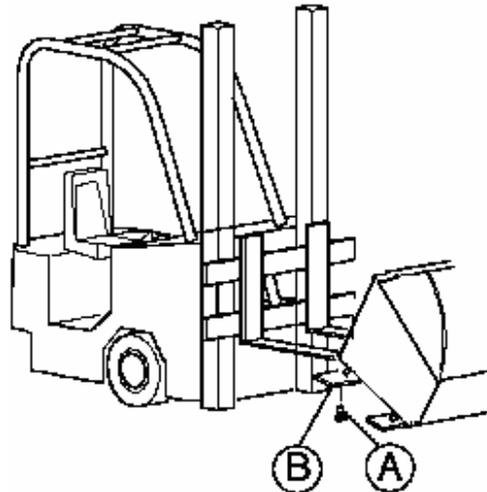

fig. 4
- Unscrew the bolts which hold the rails to the bottom frame structure (fig.4 pos.A) and remove the rails from the supporting structure (fig.4 pos.B).